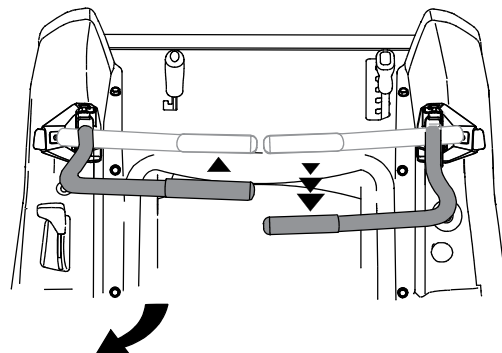

Figure 5-7
- To turn to the left while traveling in reverse, move the left drive control lever forward of the right lever. See Figure 5-7.